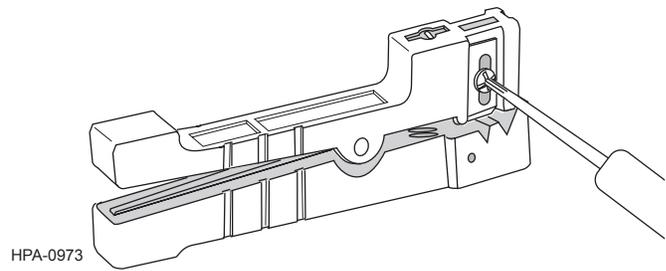

Figure 10
Step 1: Before using the stripper, make sure that it is properly adjusted. Use a small slotted screwdriver to adjust one of the blades on the side of the central tube cutter so that it seats against the lower jaw but does not force the jaw open (Figure 10).